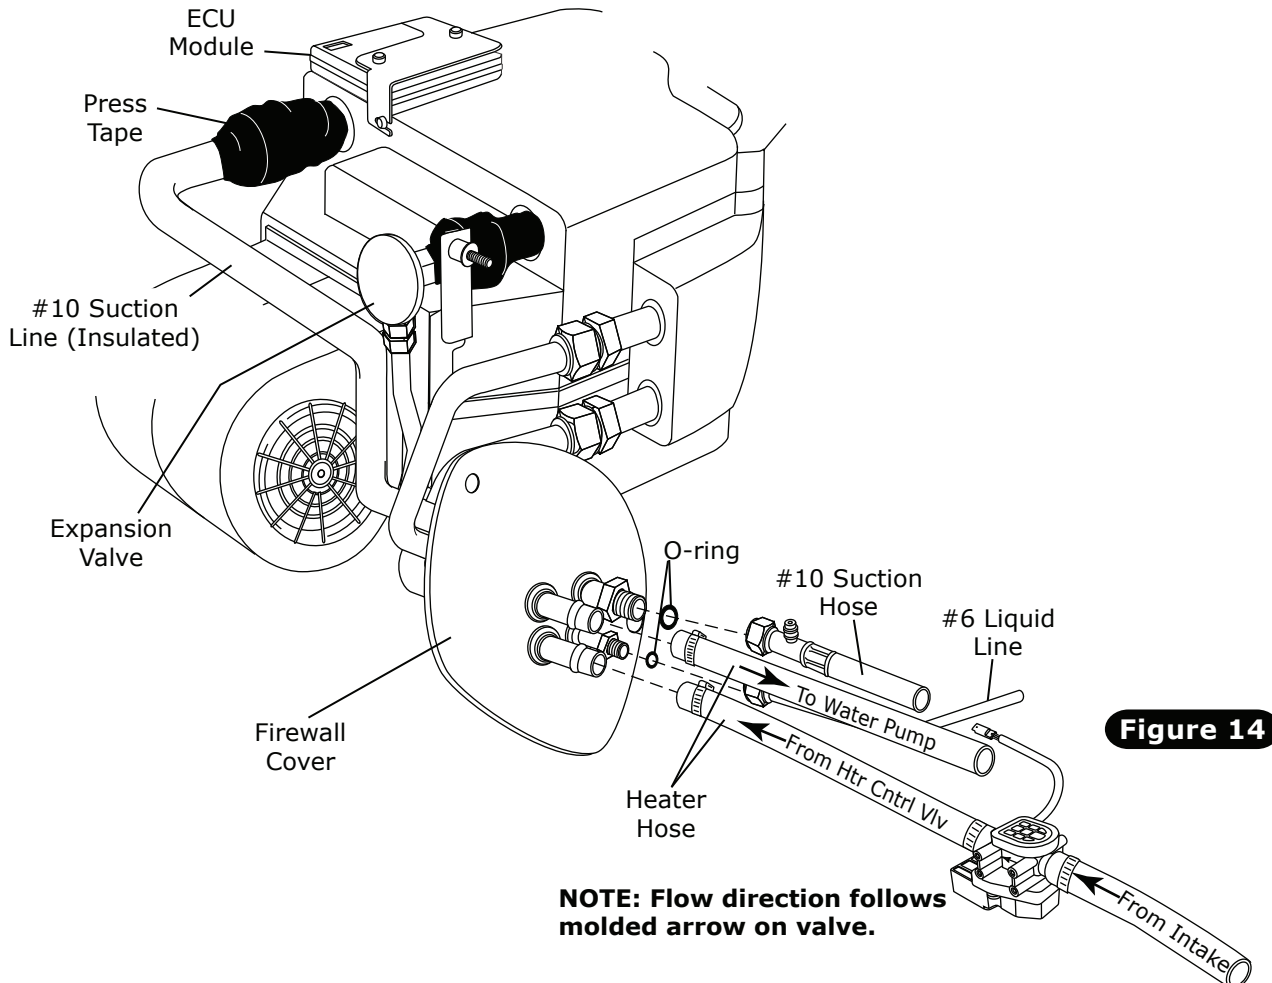

Figure 14
1. Route a piece of heater hose from the water pump to the heater line coming through the firewall as shown in Figure 13, Page 15, and Figure 14, Page 16. Secure using hose clamps.
2. Route a piece of heater hose from the intake to the heater line coming through the firewall as shown in Figure 13, Page 15, and Figure 14, Page 16. **NOTE: Install heater control valve in line with intake manifold (pressure side) heater hose, and secure using hose clamps as shown in Figure 14, Page 16. Also note proper flow direction.**